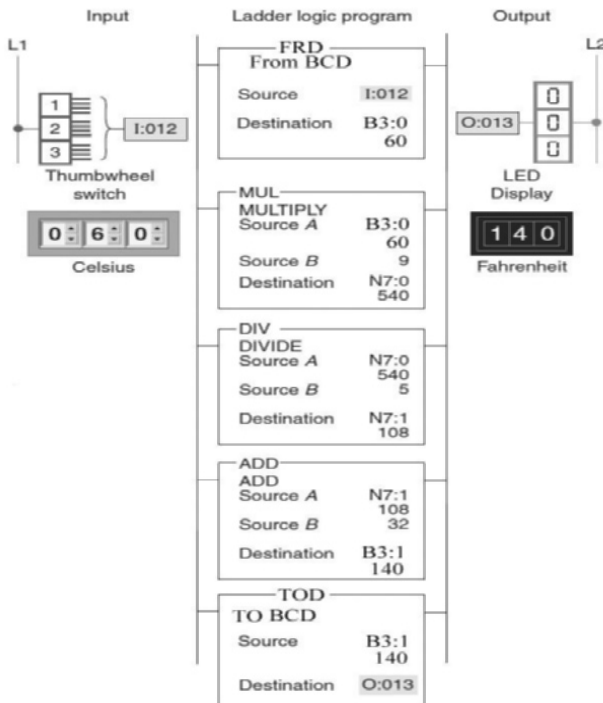

Figure 11-31 Celsius to Fahrenheit program for assignment 4.
4) The Celsius to Fahrenheit conversion program of Figure 11-31 is described in the text. Prepare an I/O connection diagram and ladder logic program that will simulate its operation. Use addresses that apply to your PLC installation. Enter the program into the PLC and verify its operation.